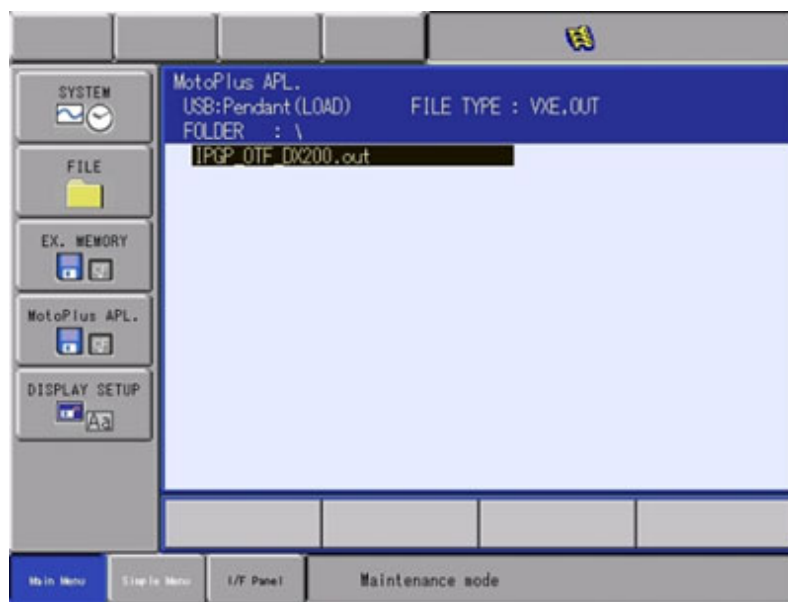

Figure 219: Selecting the IPGP_OTF_DX200 File
2. With the controller still in Maintenance mode, select "System" and click "Load (User Application)". See Figure 219 (below).